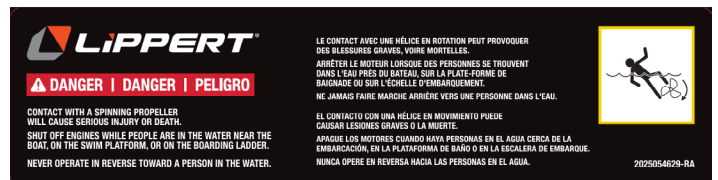

Fig.12
1. Affix the included Danger label (Fig. 12) near the steering station in accordance with the ABYC H-41 standard.